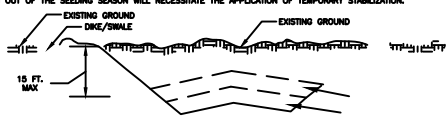

FIGURE B.1 INCREMENTAL STABILIZATION - CUT SLOPES
2. CONSTRUCTION SEQUENCE EXAMPLE (REFER TO FIGURE B.1):